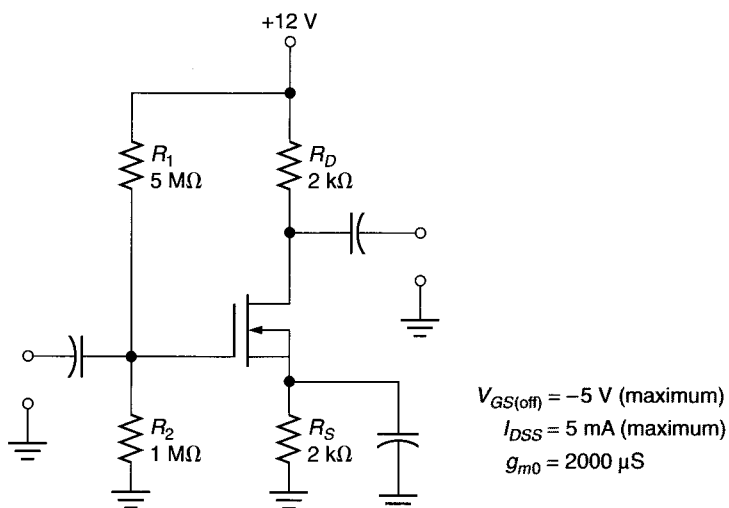

FIGURE 13.39
21. Determine the range of  $I_D$  values for the circuit shown in Figure 13.39.